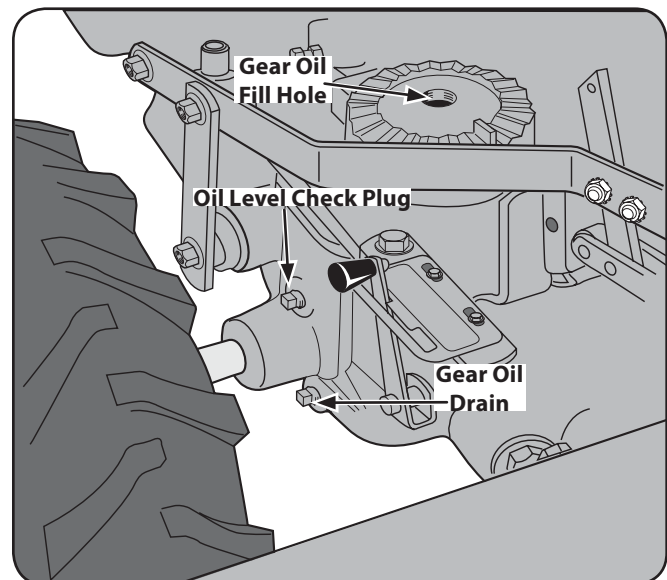

Figure 6-8
1. Place a shallow pan under the transmission gear oil drain plug. See Fig. 6-8.